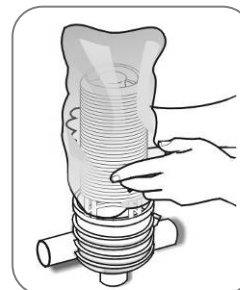

Figure 4
5. Remove the discs (for convenience we recommend using a plastic bag) (Figure 4, 5)